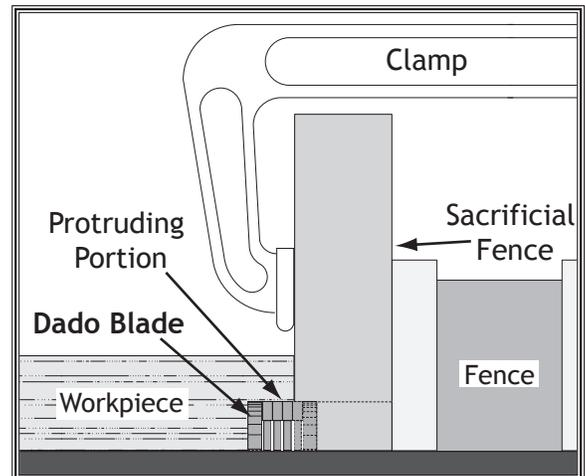

Figure 72. Rabbet cutting.
4. Position fence so dado blade protrudes beyond fence the same amount as desired width of rabbet (see **Figure 72**).